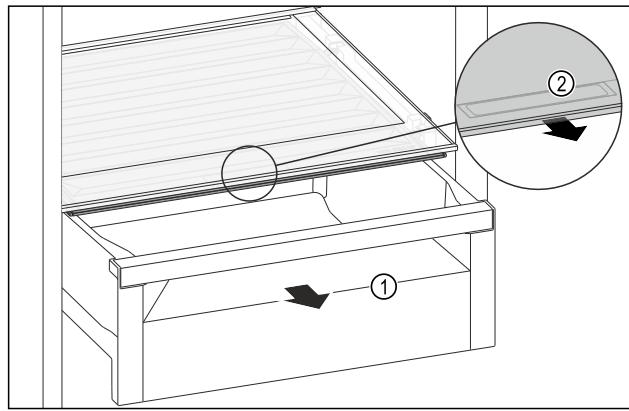

Fig. 101
- ▶ Pull out the drawer *Fig. 101 (1)*.
- ▶ Grasp the recessed grip *Fig. 101 (2)* on the compartment lid and pull the compartment lid forwards at the same time.